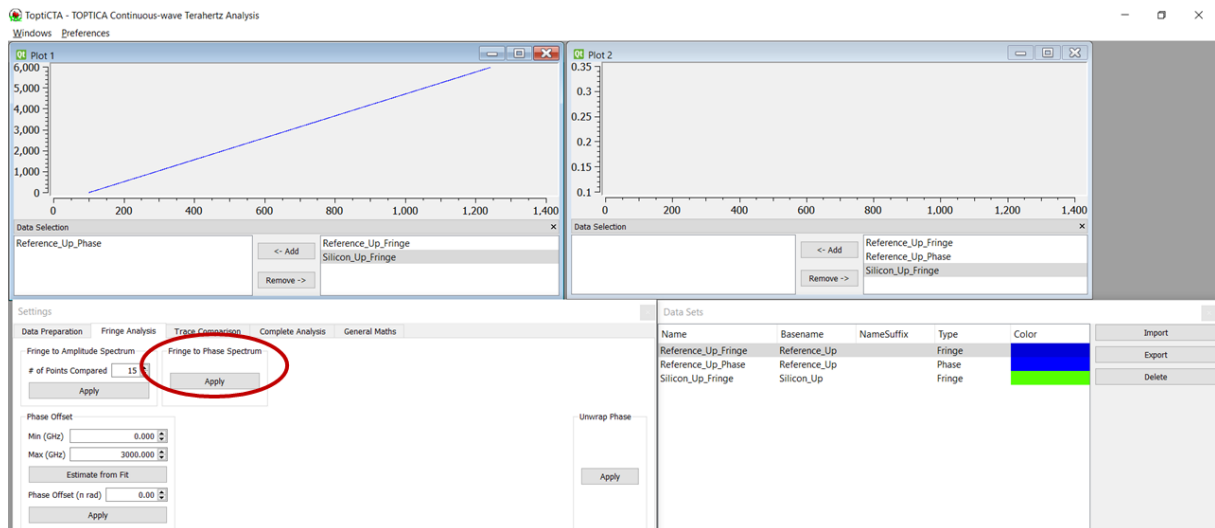

Fig. 10: Phase spectrum with incorrect offset (evident from the graph in Plot 1: when extrapolated to zero, the y-intercept is negative).
7. In order to compute a phase spectrum, click on the original *reference* measurement in the Data Selection Window. This is the dataset of type "Fringe". Then click **Apply** in the "Fringe to Phase" section of the Settings + Analysis Window. The resulting phase spectrum should show a straight line with a positive slope. The offset will most likely differ from zero (Fig. 10).
Fig. 11: Phase offset correction. In Plot 1, the blue curve shows a phase spectrum with incorrect offset (same data as in Fig. 10) and the red curve shows the offset-corrected spectrum.